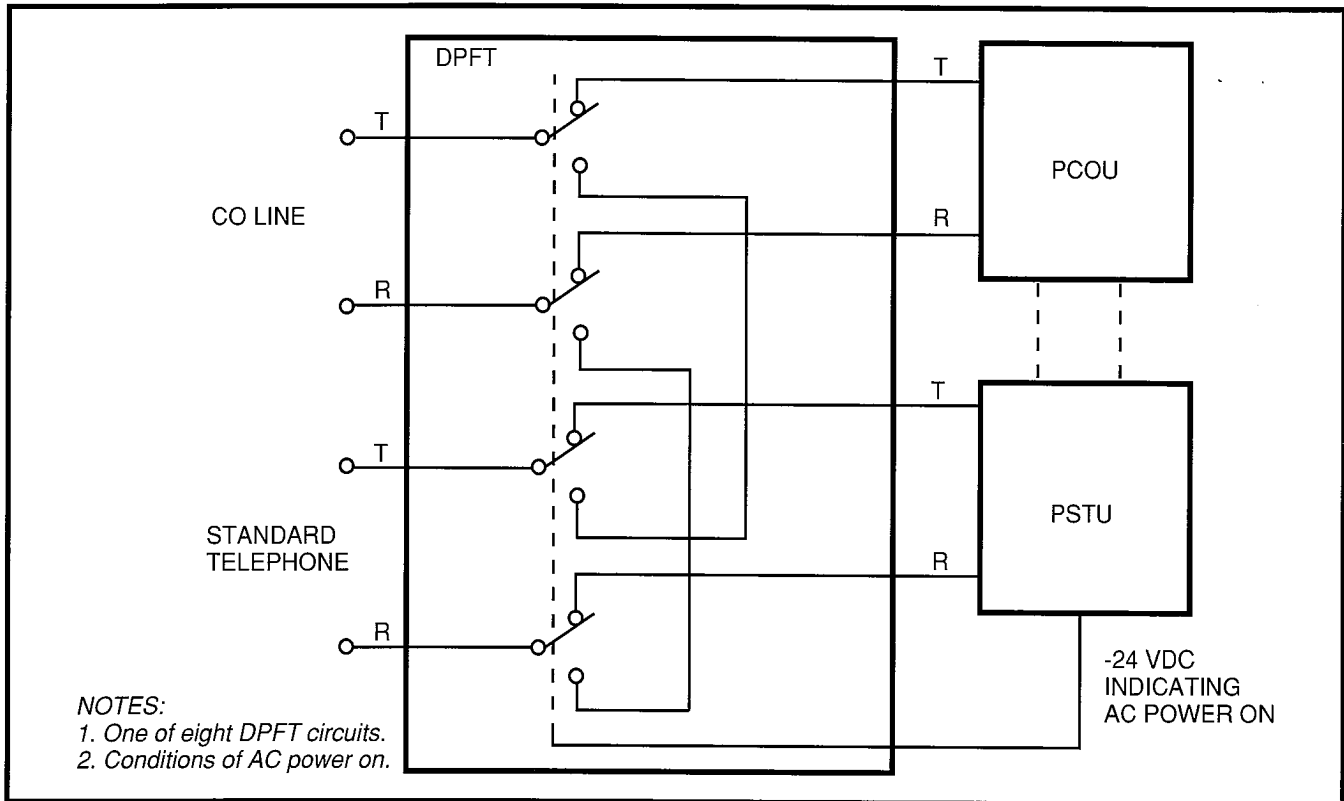

FIGURE 2-9—DPFT FUNCTIONAL BLOCK DIAGRAM
5.02 The DPFT consists of eight normally open relays, connecting the telephones to PSTU (Standard Telephone Interface Unit) PCB circuits and the CO lines to PCOU (CO Line Unit) PCB circuits (Figure 2-9). If a power failure occurs, the relays close, connecting the telephones directly to the CO lines. Calls can then be placed from the selected standard telephones, over the CO lines, completely bypassing the system.